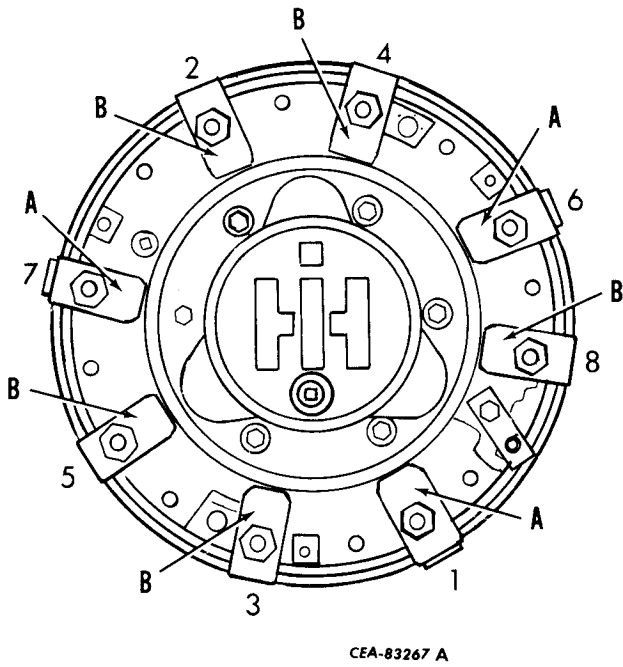

Fig. 3. Clamp Removal
c. Remove the three special shipping clamps (A, Fig. 3) and the five standard rim clamps (B, Fig. 3).